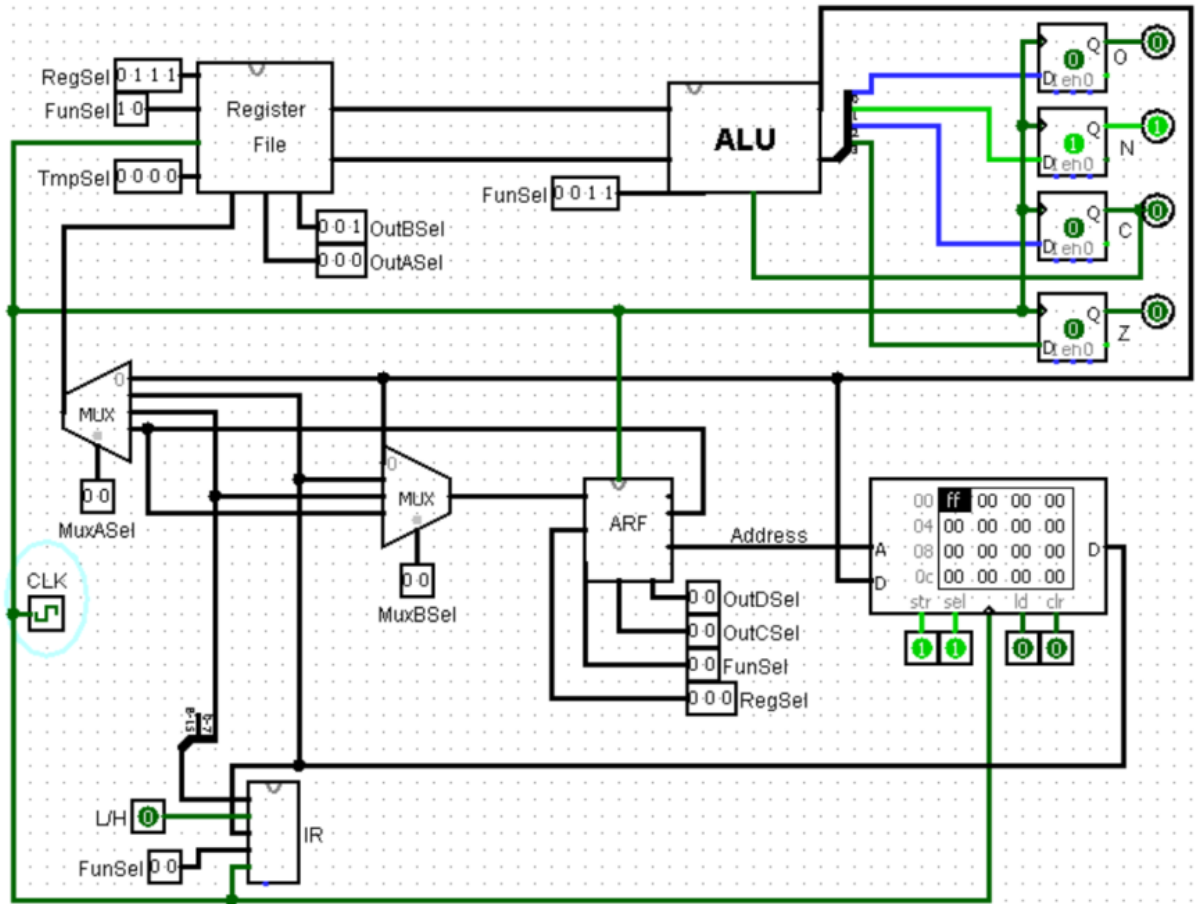

Figure 20: Logisim Circuit while applying first test case datas to design
- For the 1st test case, our aim is to Load Register File R1 with $\text{NOT}(\text{R2}) = \text{R2}'$ value. You can see the clear implementation in Figure 20 Our input values will be in the following manner:
- And if we enter 1 full clock cycle, we can see our $\text{R1} = 0\text{xFF}$, $\text{N} = 1$, $\text{C} = 0$ in the following Figure 20.